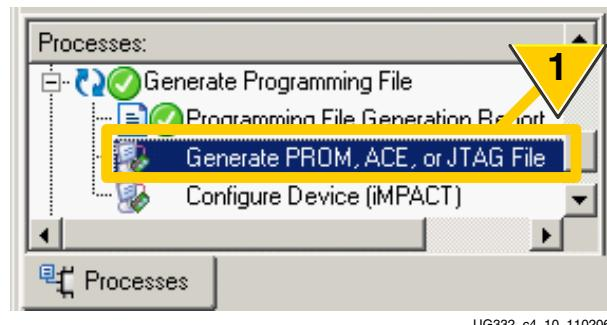

Figure 10-3: Double-click Generate PROM, ACE or JTAG File
1. From within the ISE Project Navigator, double-click **Generate PROM, ACE, or JTAG File** from within the Process pane, as shown in Figure 10-3.